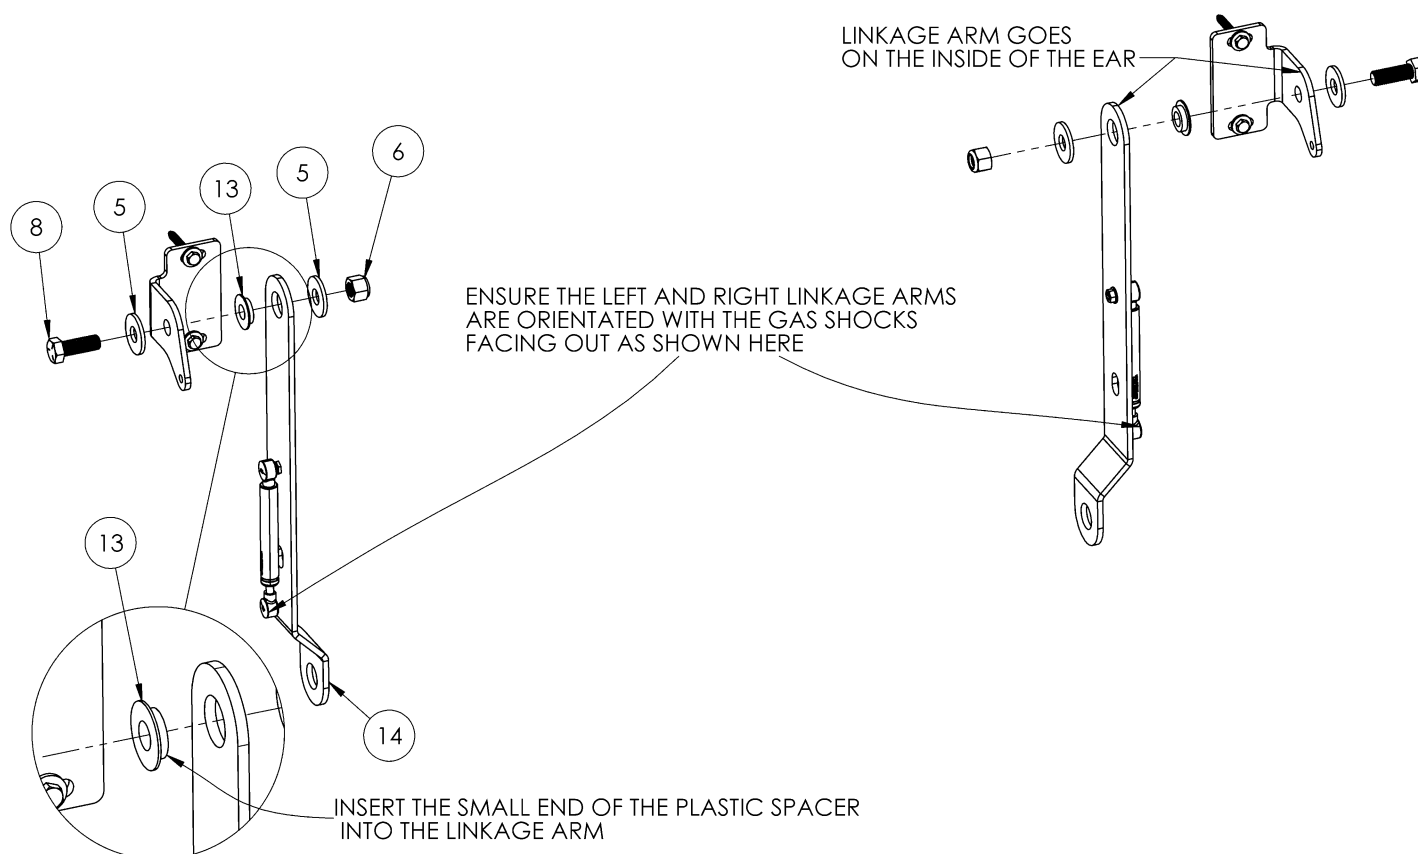

Figure 6: Bolting on the Linkage Arms
1. Place the small side of the plastic spacer (13) into the linkage arm (14) (**Figure 6**).
3. Attach the linkage arm to the wall bracket using a 1-3/4" hex head bolt (8) and 5/8" washer (5) on the outside of the wall bracket "ear" and a 5/8" washer (5) and 5/8" lock nut (6) on the inside of the linkage arm.